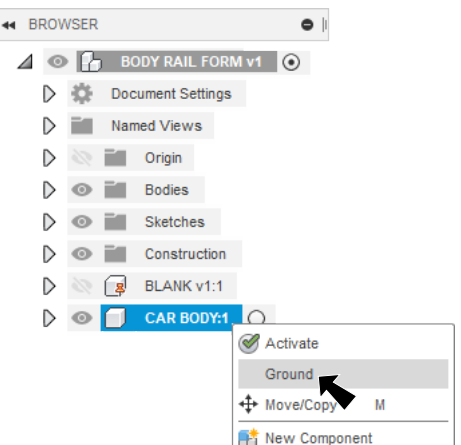

Fig. 4
Step 6. Right click **CAR BODY**  and click **Ground**, Fig. 4.